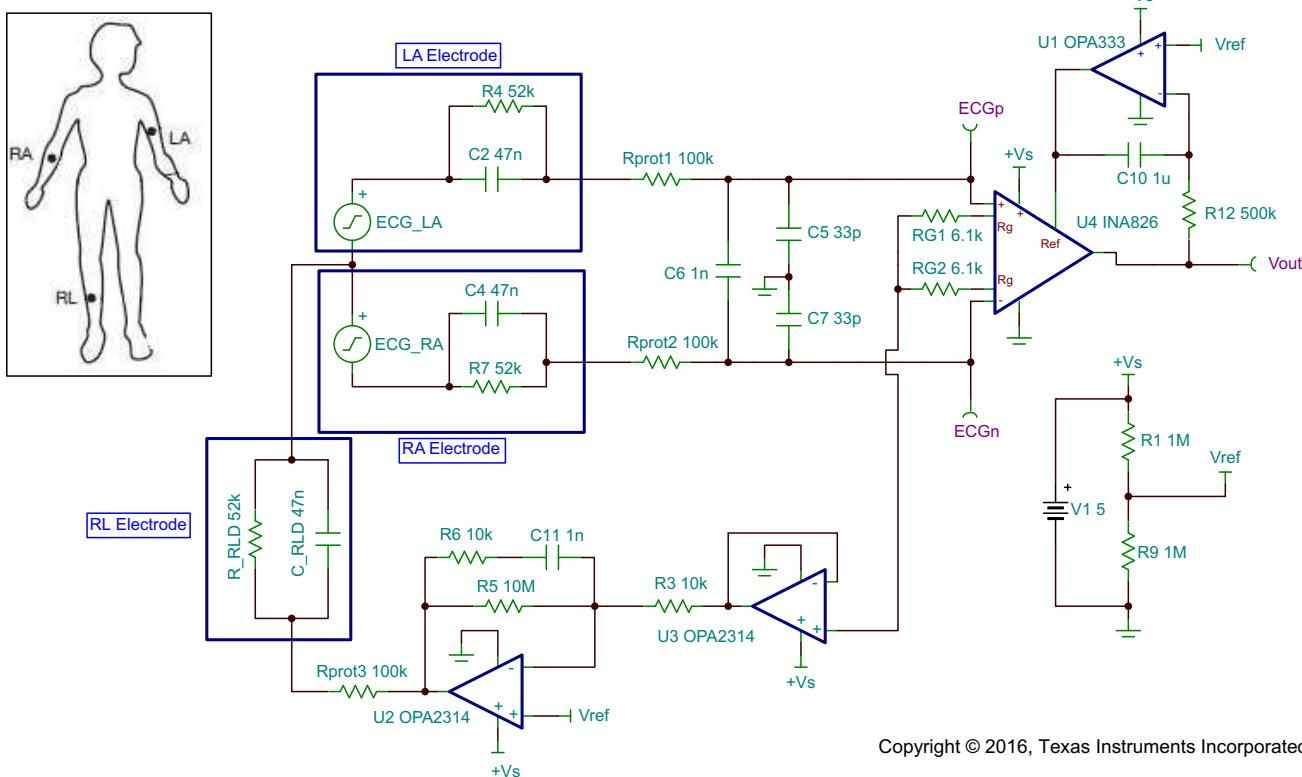

Figure 69. ECG Circuit
Figure 69 is an example of a LEAD I ECG circuit. The input signals come from leads attached to the right arm (RA) and left arm (LA). These signals are simulated with the circuitry in the corresponding boxes. Protection resistors (R_{PROT1} and R_{PROT2}) and filtering are also provided. The OPA333 is used as an integrator to remove the gained-up dc offsets and servo the INA826 outputs to V_{REF} . Finally, the right leg drive is biased to a potential ($+V_s / 2$), and inverts and amplifies the average common-mode signal back into the patient's right leg. This architecture reduces the 50-Hz and 60-Hz noise pickup.